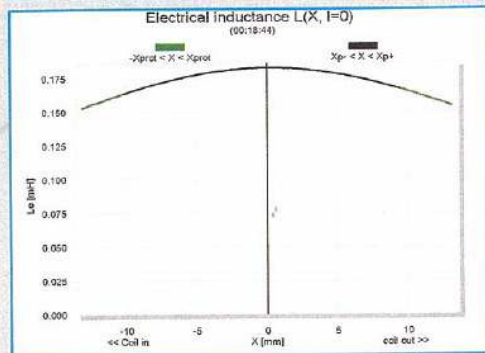

FIGURE 24: Klippel Analyzer $L_e(X)$ curve for the ScanSpeak 18WU/4741T00.
Displacement limiting numbers calculated by the Klippel analyzer were XBl at 82% BI = 9.5mm and for XC at 75% Cms minimum was 6.4mm, which, like the 15WU, means that for the 18WU woofer, the compliance is the most limiting factor for prescribed distortion level of 10%. **Figure 24** gives the inductance curves Le(X) for the 18WU. This is also very similar to the 15WU, with a decreasing inductance as the coil moves inward, the result of the copper shorting sleeve in this motor system.